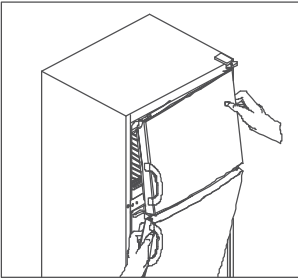

Fig. 2
- 2. Remove the refrigerator and freezer door from the frame, pulling towards yourself, together with the central hinge. (Fig. 2)